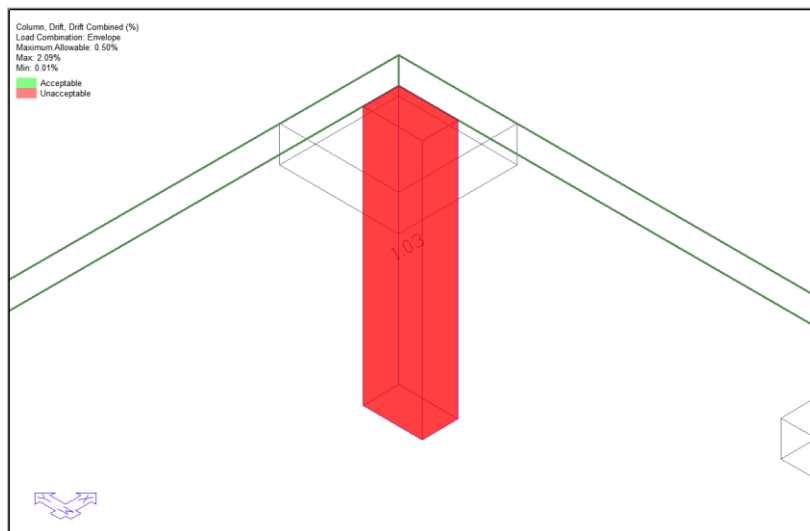

FIGURE 14-8
- In the *Column* tree of the **Results View** panel, expand the *Drift* tree and select the option for *Drift Combined*. **FIGURE 14-8** shows the drift results. Note the red color indicates that the story drift does not meet the acceptance criteria. The global displacement reported above is the combination of X, Y and Z displacements. The drift check considers local axis r-r and s-s displacements. The colorization is based on the entire set of combinations so even if only one combination does not meet the acceptance criteria, the indication color will be red. The values reported for drift is for the selected combination or envelope.